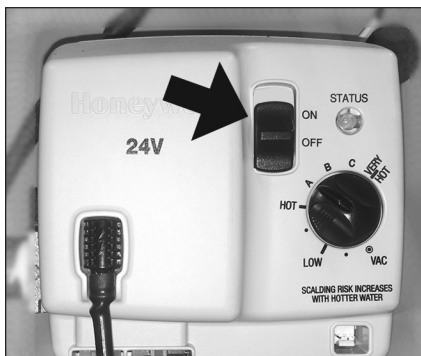

Figure 44 - Turn the gas control valve off.
- 1 Move the ON/OFF switch on the gas control valve/thermostat to the "OFF" position to turn off the water heater (Figure 44).